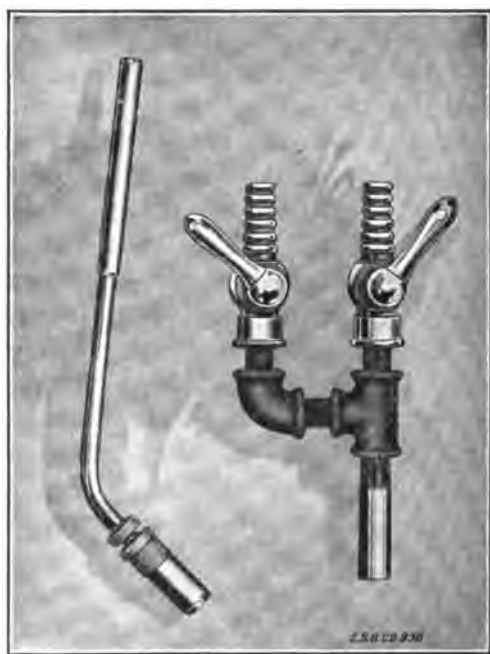

Fig. 469. Lead-Burning Outfit for Use with Illuminating Gas
*Illuminating Gas Outfit.* Heretofore it has not been possible to do good work in lead burning with illuminating gas, but a special type of burner has recently been perfected by the Electric Storage Battery Company, which permits the use of illuminating gas with satisfactory results. The outfit consists of a special burning tip and mixing valve. Sufficient  $\frac{1}{8}$ -inch rubber hose should be provided, and the rubber should be wired firmly to the corrugated connections, Fig. 469, as the air is used at a comparatively high pressure. A supply of compressed air is necessary, the proper pressure ranging from 5 to 10 pounds, depending upon the length of hose and the size of the parts to be burned. When air from a compressor used for pumping tires is utilized for this purpose, a suitable reducing valve must be introduced